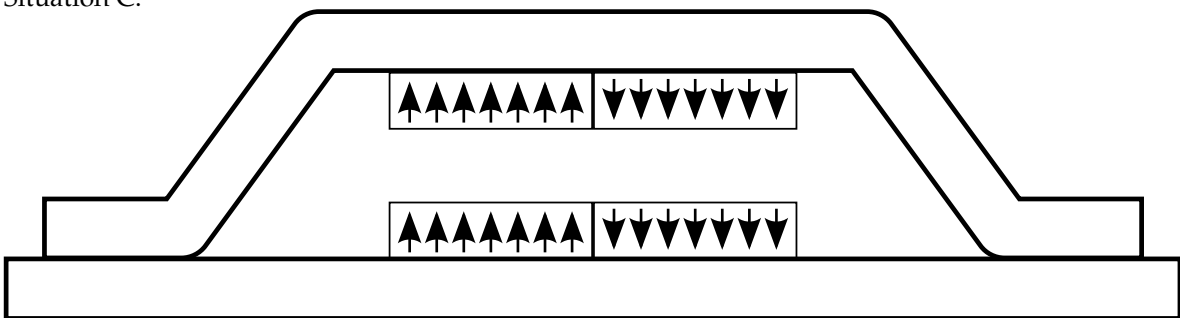

Figure 5: Schematic drawings to draw the magnetic field lines in the partial situations A and B and in the full actuator, situation C..
In order to determine the magnetic field in the air gap of the actuator, we will start with a system with only 2 out of 4 magnets, as shown in the upper 2 drawings in Figure 5 (situations A and B).
- (6p) **4a.** Draw the magnetic field-lines as you expect them in the top and the middle drawing in Figure 5 (Situations A and B). Pay attention to the flux line density and indicate the flux direction. (To hand in your solutions digitally, please draw on the printed paper, scan your solution and include it in the document you hand in through Blackboard.)
- (7p) **4b.** For Situation A (the top drawing in Figure 5): Make a schematic drawing of the equivalent circuit according to Hopkinson's law using reluctances and magnetomotive force sources. Make sure you include all relevant flux paths and leave out the irrelevant or negligible flux paths. Stray flux paths may be neglected.
- (6p) **5a.** Superimpose (add) the fields you have found in Question 4a to form the field of the total system. Draw the combined field in the bottom diagram of Figure 5 (Situation C, the system with 4 magnets). Again, pay attention to the flux line density and the flux direction.